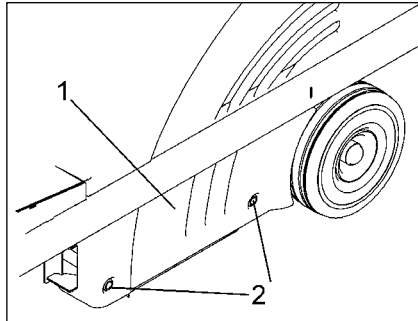

Fig.14
- Open locks (Fig. 14/2) by enclosed square spanner (turn counter-clockwise)
- Remove cover (Fig. 14/1)